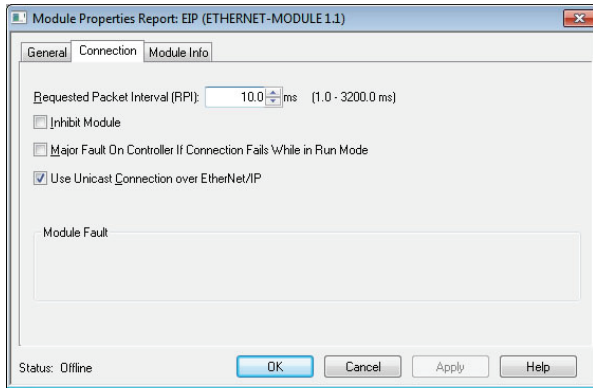

Figure 54: Module Properties Connection Tab
- 5) You should now see the new module (named “ETHERNET-MODULE Interface_Card”) in the 1756-ENBT/A branch under the I/O Configuration in the controller organizer view. Right click on this new module, choose “Properties”, and select the Connection tab. Refer to Figure 54.